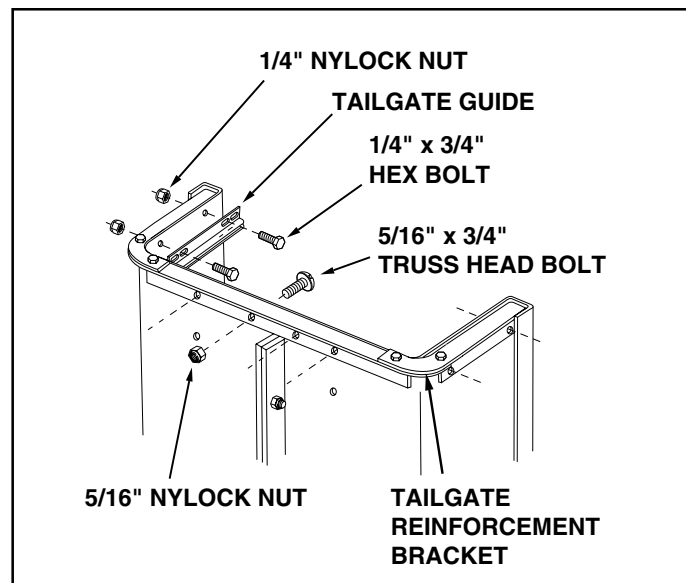

FIGURE 2
5. Position the tailgate reinforcement bracket on outside of cart as shown in figure 2. Assemble to the bottom of the cart body using four 5/16" x 3/4" truss head bolts and 5/16" nylock nuts. **Do not tighten yet.** See figure 2.
6. Position the tailgate guides on the inside of the cart bodies with guide channels to the front as shown in figure 2. Assemble using four 1/4" x 3/4" hex bolts and 1/4" nylock nuts. **Do not tighten yet.** See figure 2.